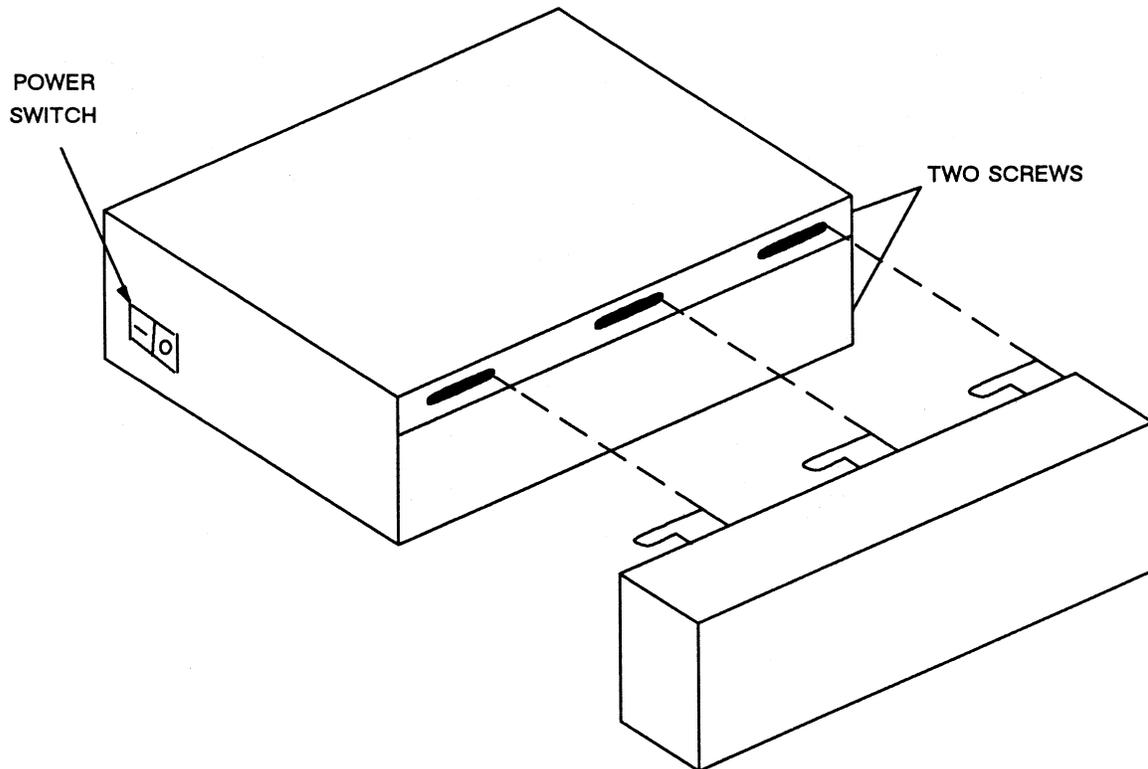

Figure 2-11. Model 32 CADDStation Base Unit, Right Side View
1. Remove the two screws on the back of the cover. See Figure 2-11.